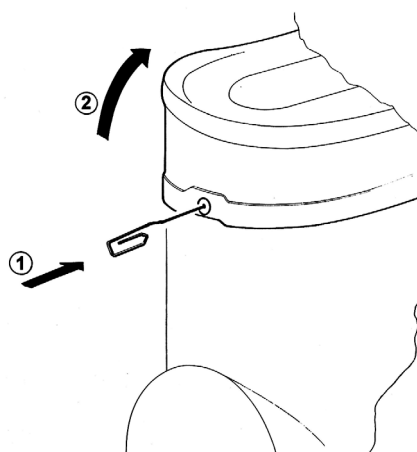

figure 3
**10** To release a locked top cover it is necessary to insert a sharpened object in the hole located in the middle of the fixing button, push it and lift the cover. (see figure 3)